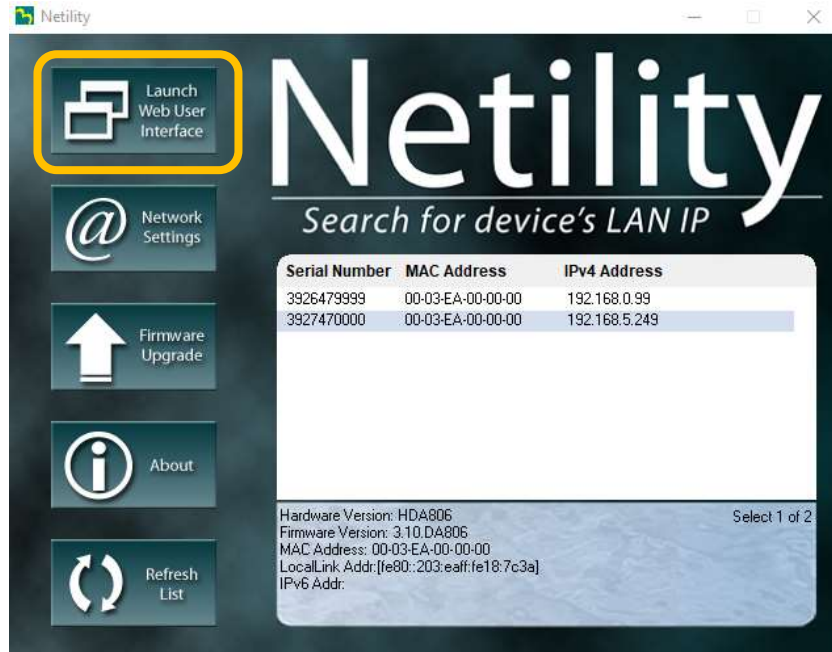

Fig. 6-8 Netility software main screen
- Locate and run the NETILITY software (Fig. 6-8)